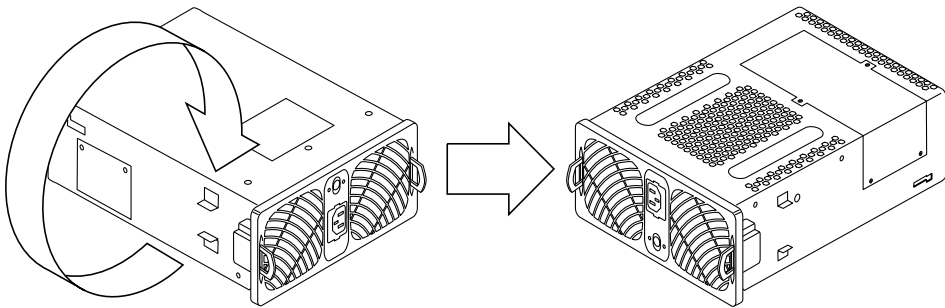

FIGURE 7-4 Turning the PCU upside down
2. Turn the PCU over such that the bottom of the unit is facing up as shown in FIGURE 7-4.